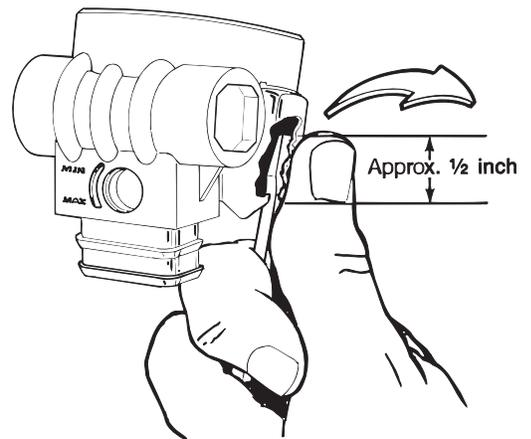

Fig. 7a - Exhaust Cover Removal - Step 1
29. Place a medium blade screwdriver approximately ½ inch inside the top corner of the exhaust cover(34), and press the exhaust cover between thumb and screwdriver (see Fig. 7a). While holding the box bottom horizontal and secure, pull the exhaust cover out and away from the box bottom only until that corner of the exhaust cover is disengaged.